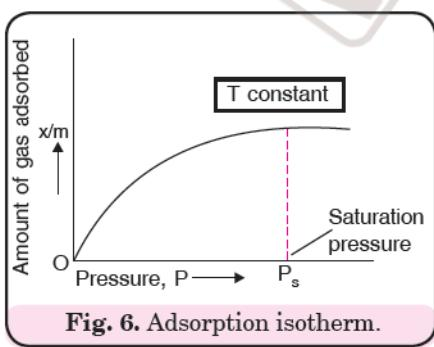

Fig. 6. Adsorption isotherm.
The extent of adsorption of a gas per unit mass of adsorbent depends upon the pressure of the gas. **The relation between the amount of substance adsorbed by the adsorbent and the equilibrium gas pressure (or concentration for solutions) at constant temperature** is called an **adsorption isotherm**. This may be expressed in the form of an equation or graphical curve (or plot). The extent of adsorption is usually expressed as $\frac{x}{m}$ where x is the mass of adsorbate and m is the mass of the adsorbent. The simplest type of adsorption is shown in Fig. 6.
The variation of extent of adsorption (x/m) with pressure (P) at a particular temperature was given mathematically by Freundlich in 1909. From the adsorption isotherm (Fig. 6), the following observations can be easily made :